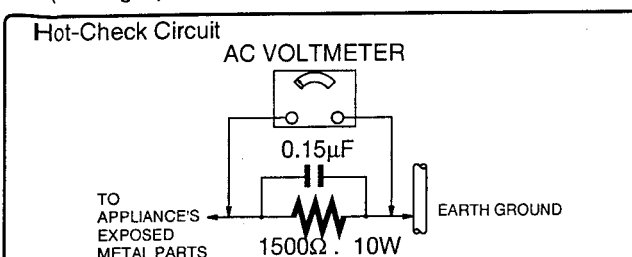

Fig. 2
2. Connect a 1.5K ohms, 10 watts resistor, in parallel with a 0.15 μ F capacitor, between each exposed metallic part on the set and a good earth ground. (See Fig. 2)